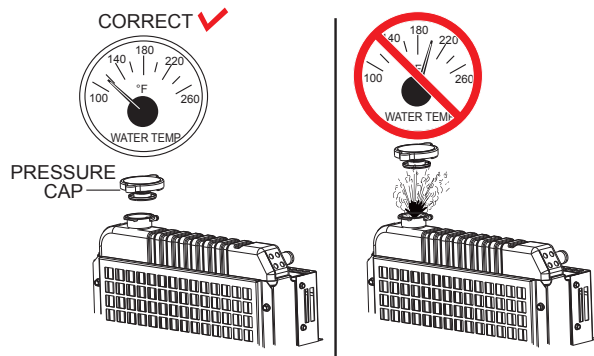

Figure 54. Radiator Pressure Cap Removal
1. Remove the radiator pressure cap (Figure 54) only if the coolant temperature is below 120°F (50°C).